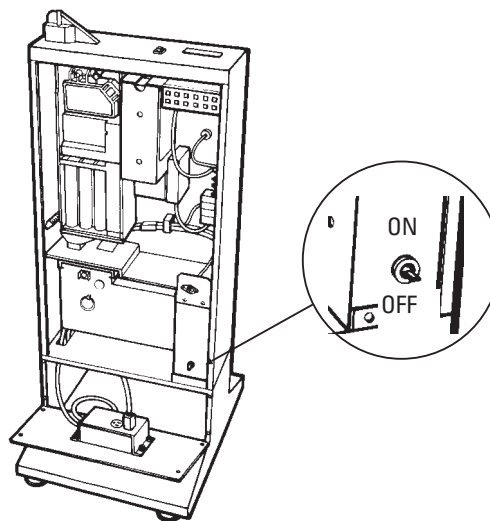

Figure 3-20:
- 1 Check that the ON/OFF switch is in the OFF (down) position (Figure 3-20).